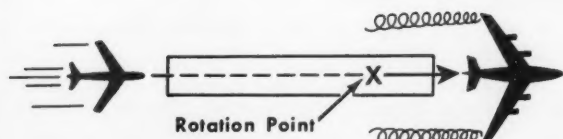

Fig. 11
- Landing behind a departing large aircraft on the same runway. Note aircraft's rotation point and land well prior to it (see Fig. 11).